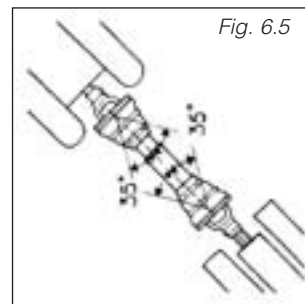

Fig. 6.5
1. Always ensure equal joint angles (Fig. 6.5.). Disengage the PTO if joint Angles are too large or unequal. Check that the guard of the driveline does not interfere with parts of the tractor or implement (e.g. drawbar, master shield, tyres). Decrease the maximum working angles in those conditions.